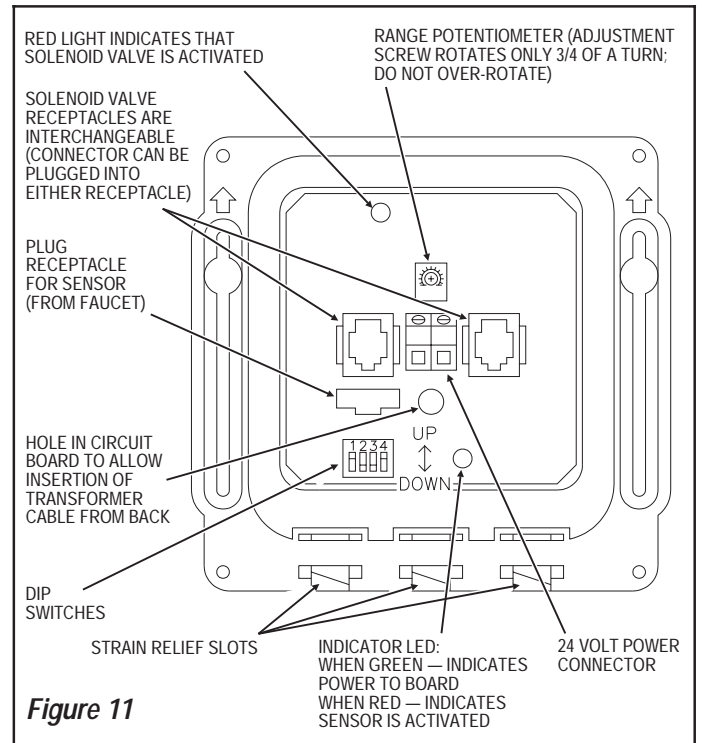

Figure 11
**Note:** The Control Module is equipped with two LED lights. When the Board is being powered by the Transformer, one LED will illuminate green. When the Sensor is activated, this LED will change to red. A second red LED illuminates when the Solenoid Valve is activated. Refer to Figure 11.
The Range Potentiometer and Dip Switches are located in the Control Module as shown in Figure 11.
Refer to label on cover of Control Module along with the following instructions to set the desired Time Out. The Dip Switches used to set the Time Out are located in the Control Module as shown in Figure 11.